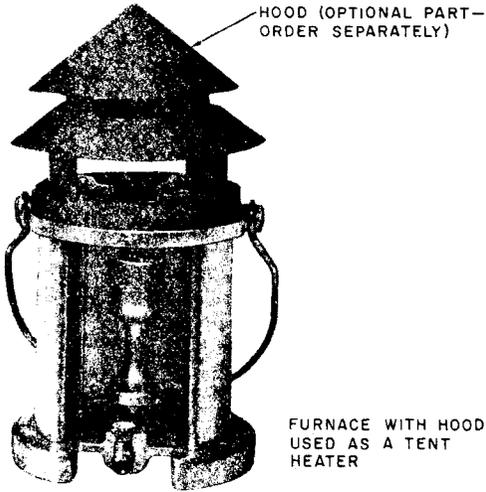

Fig. 2 — Hood in Place on Furnace
2.02 The hood is placed on the furnace as shown in Fig. 2 when the furnace is used as a tent heater.